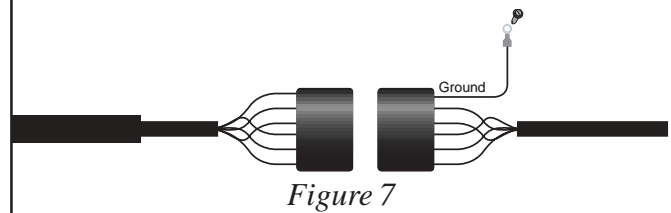

Figure 7
- Attach the terminal end of the ground wire to a clean section of the framerail using the provided self-tapping screw. (Figure 7).